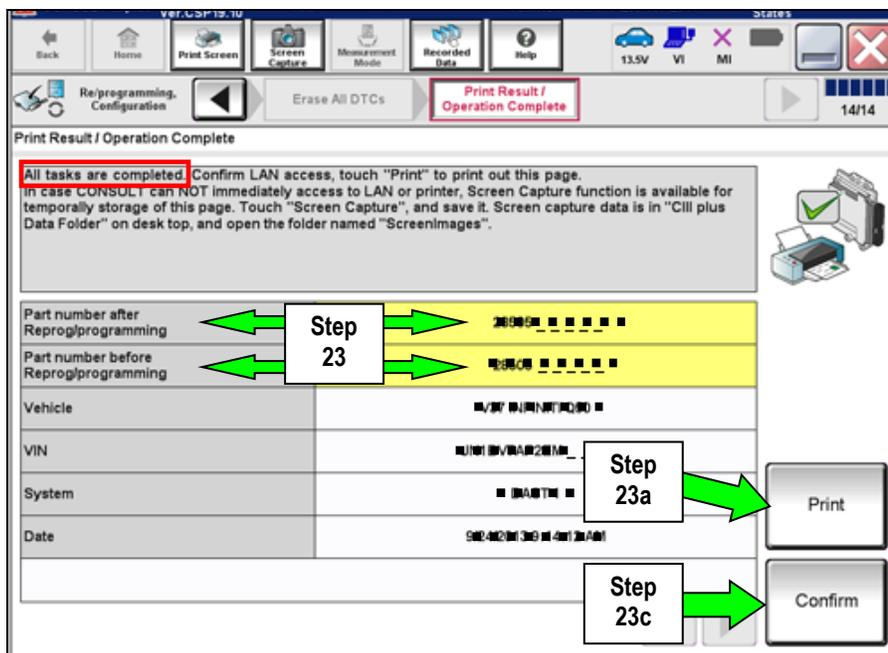

Figure 21
- a. Print a copy of the screen in Figure 21 by selecting **Print**.